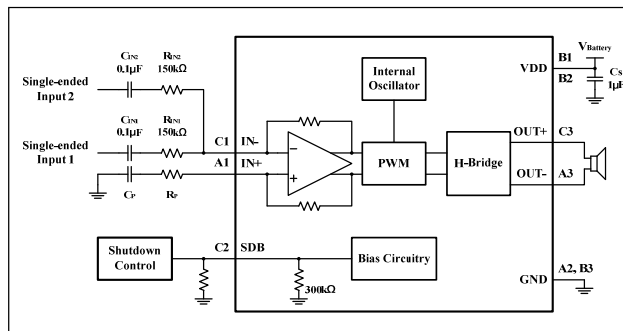

Figure 14 Summing Two Single-Ended Inputs
The gain and corner frequencies (f_{c1} and f_{c2}) for each input source can be set independently (see Equations (11) through (14) and Figure 14). Resistor, R_p , and capacitor, C_p , are needed on the IN- terminal to match the impedance on the IN+ terminal. The single-ended inputs must be driven by low impedance sources even if one of the inputs is not outputting an ac signal.